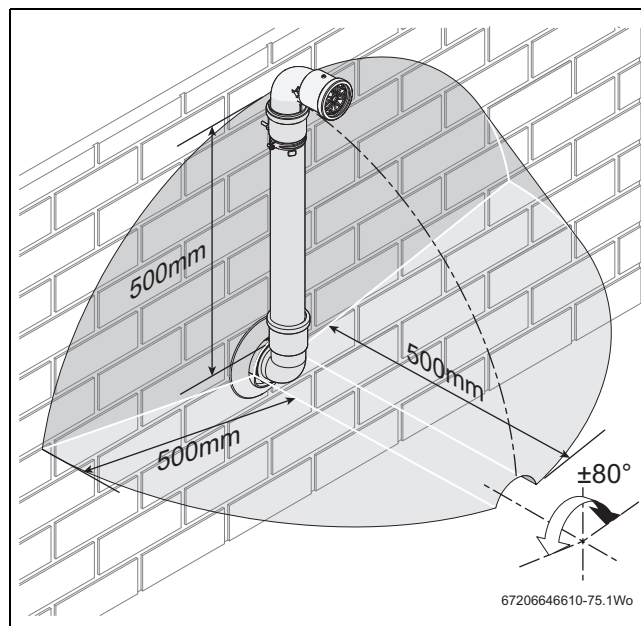

Fig. 21 Terminal exclusion zone
The minimum plume length should be calculated to ensure that the air inlet and exhaust have a minimum distance of 500mm between them (→ figure 21).
- Do not terminate the plume management inside the shaded area shown in figure 21